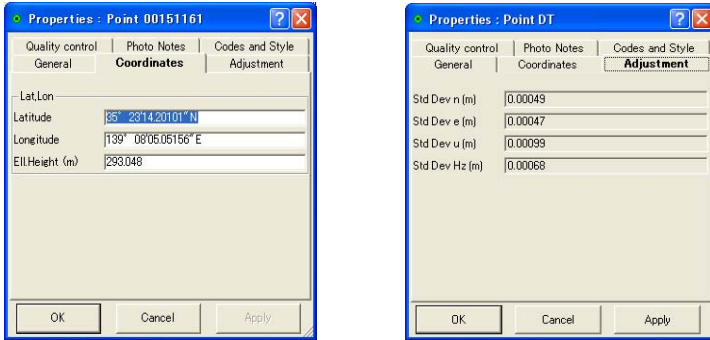

Figure 5-99. Coordinates and Adjustment Properties
4. View or edit *Coordinates* tab fields (Figure 5-99). Available fields depend on the coordinate type selected in Job configuration.
- View *Adjustment* tab fields for standard point deviations (Figure 5-99).